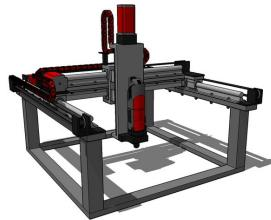

Figure 2.8: 3D printer
**3D printers:** There are open source 3D printers based on Arduino and Raspberry Pi. Although 3D printers, shown in Fig. 2.8, are relatively slow and lack precision, they can be ideal for building prototypes by hobbyists [10].